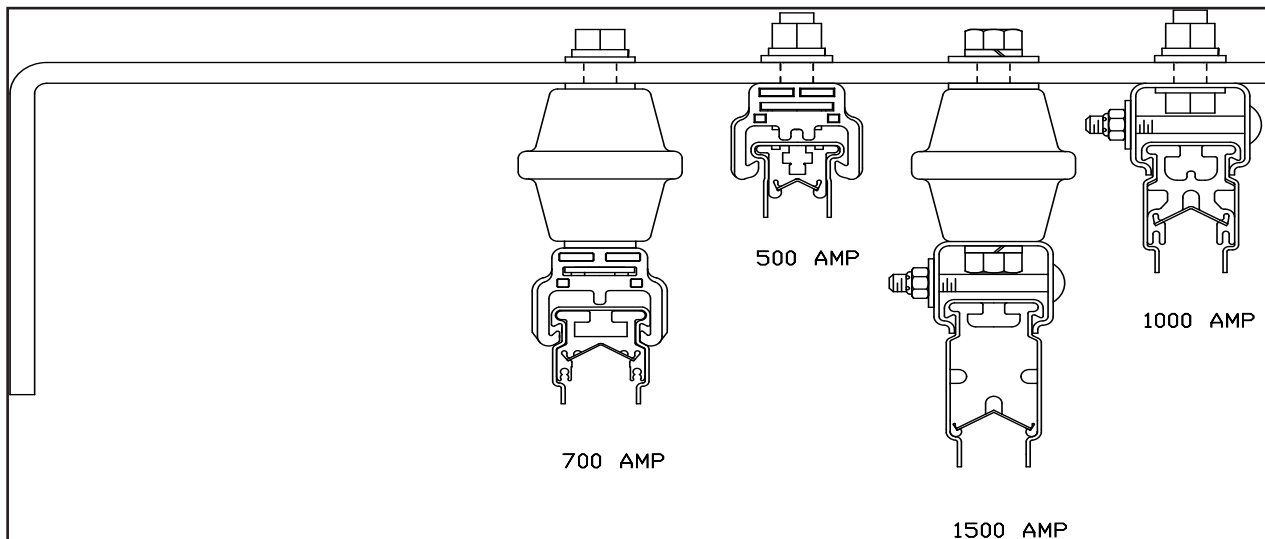

Figure 14-1 Cross-Bolt and Snap-In Hanger Clamps
- Hanger clamp body, bolts, washers, and lock washers. A reference drawing for both cross-bolt and snap-in hanger clamps can be seen in **Figure 14-1**.